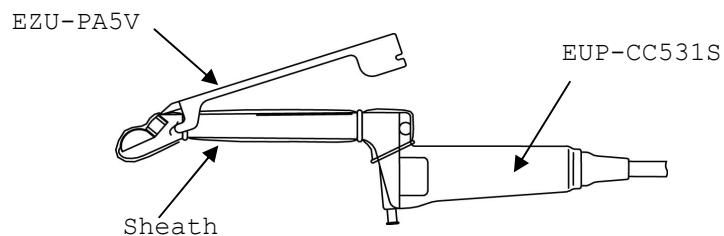

Fig. 3
- 2) Put the picks of the Sterile Puncture Adapter to the grooves on the tip of the probe. (See Fig.3)